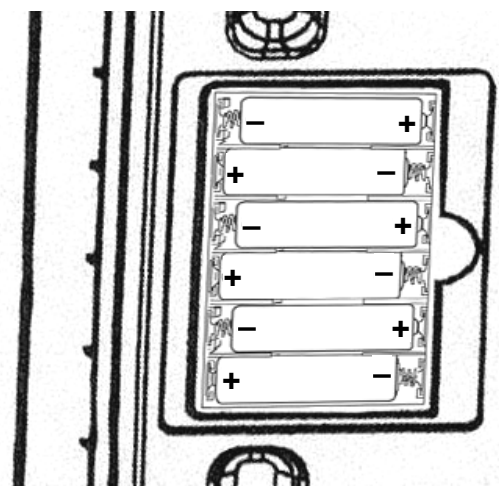

Figure No. 28
3. If installing new batteries, proceed to step 4. If replacing the batteries, remove all six (6) batteries from the battery holder and then proceed to step 4.
4. Install the six (6) new "AA" size batteries in the battery holder, noting the polarity markings located in the battery holder. See Figure No. 28.